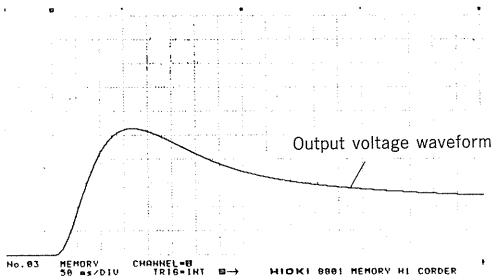

Fig. 4 Waveform of motor start-up current
**NOTE** • As you may infer from the above, the meaning of the output voltage will vary if variations in the input current fall within both the UP and DOWN ranges. Therefore, care should be taken in interpreting levels from recorded data. (See Figure 4.)